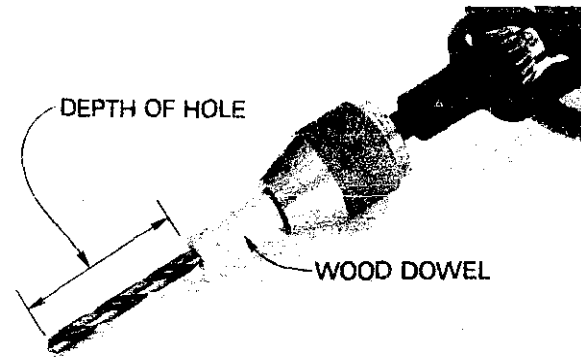

Fig. 10-54 Dowel used as a depth gauge.
3. Slip the dowel over the bit as shown in figure 10-54. Check the amount that the bit projects with a rule. Slight adjustments can be made by sliding the shank of the bit in or out of the chuck.